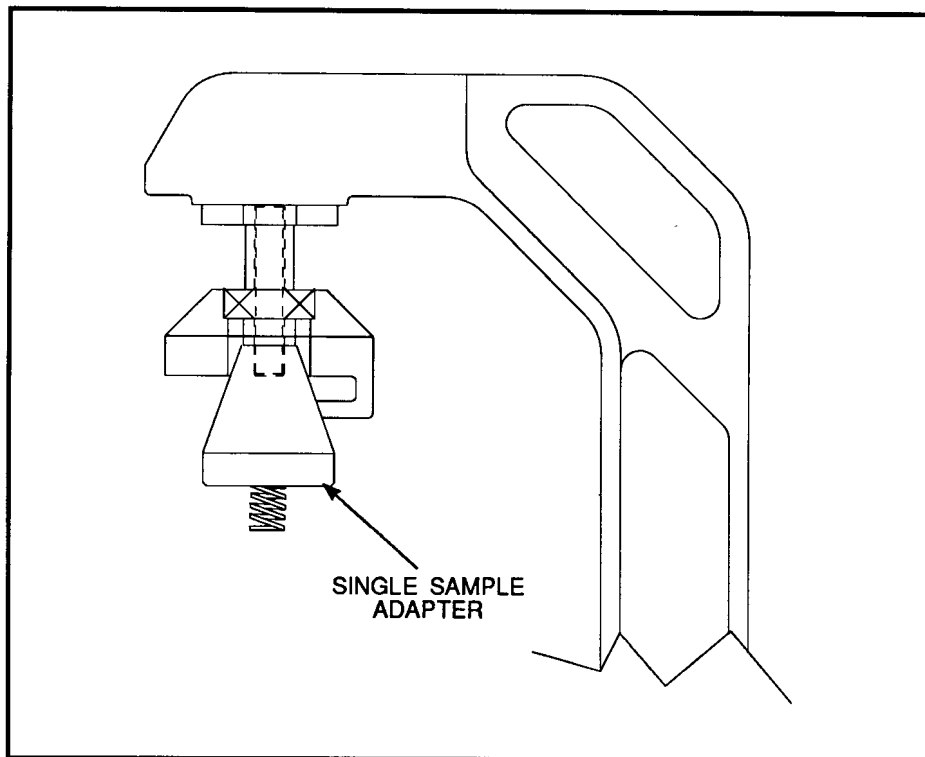

Figure 4. Installing Single Sample Adapter.
3. Mount the Single Sample Adapter by screwing it in the Loading Fixture as shown in Figure 4.